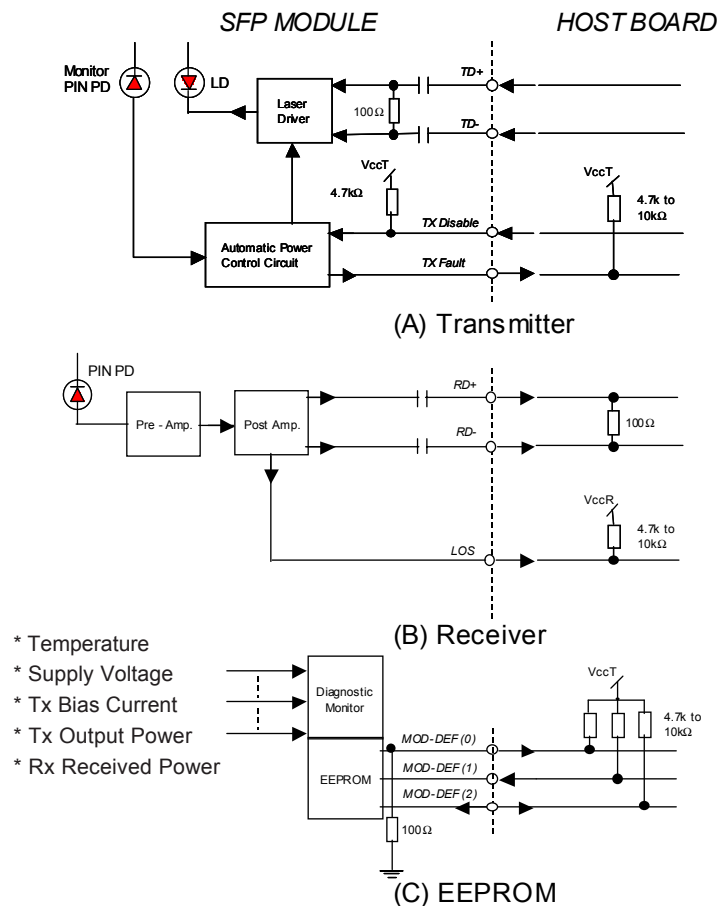

Figure 1. Block Diagram (Diagnostic Monitor is incorporated for SCP6EN4-GL-#N-xx only.)
- Vcc=+3.3V +/-5%, Output load resistance Rdif=100Ω. Refer to Figure1-(B).